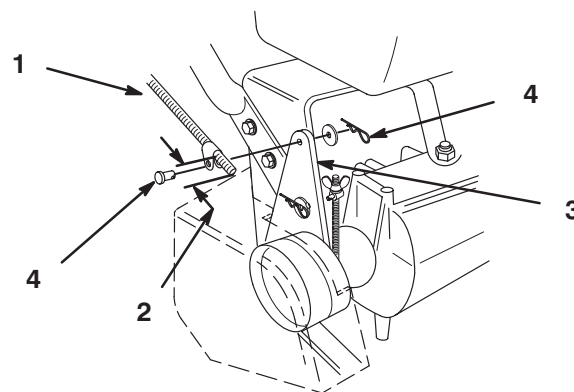
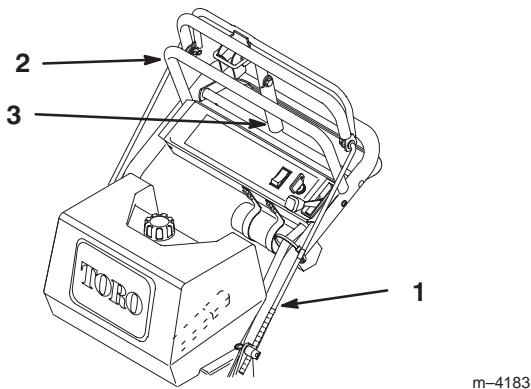

Figure 7
Figure 8
1. Thread a rod fitting onto each control rod approximately 2 in. (51 mm) (Fig. 7) or until upper control bar (Fig. 8) is approximately perpendicular to the ground.
2. Mount rod fitting ends to mounting holes in idler brackets (from outside) with clevis pins, washers and hairpin cotters (Fig. 7).
3. Check gap between upper control bar and upper handle when fully engaging wheel belts. Gap should be approximately 1 to 1-1/4 in. (25–32 mm) (Fig. 8).
5. Brake rods should be adjusted so parking brake lever can be swung into a snug position against the upper handle while pulling back on upper control bar (Fig. 8).